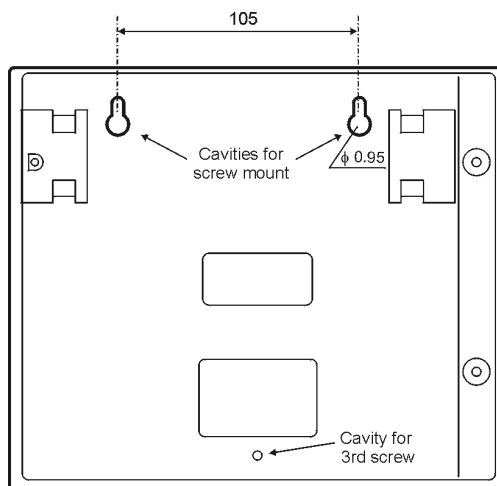

Figure 3
The MOSCAD-M can be mounted on the wall using screws, as shown in Figure 3.
2. Hang the unit on the screws, fitting the two cavities on the back cover of the unit over the screws (see Figure 3).